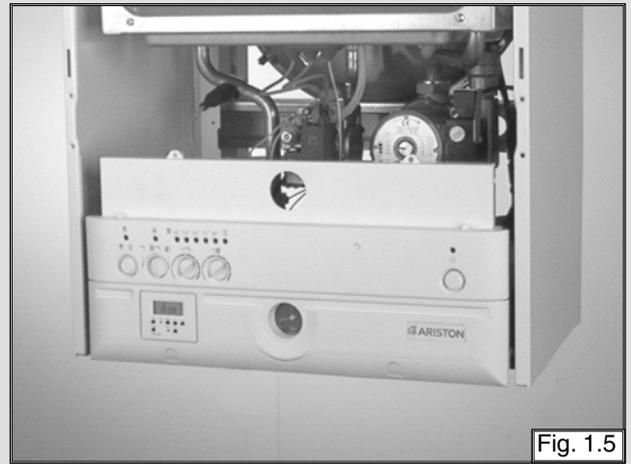

Fig. 1.5
2. Push the two side panels outward slightly (*fig. 1.5*);